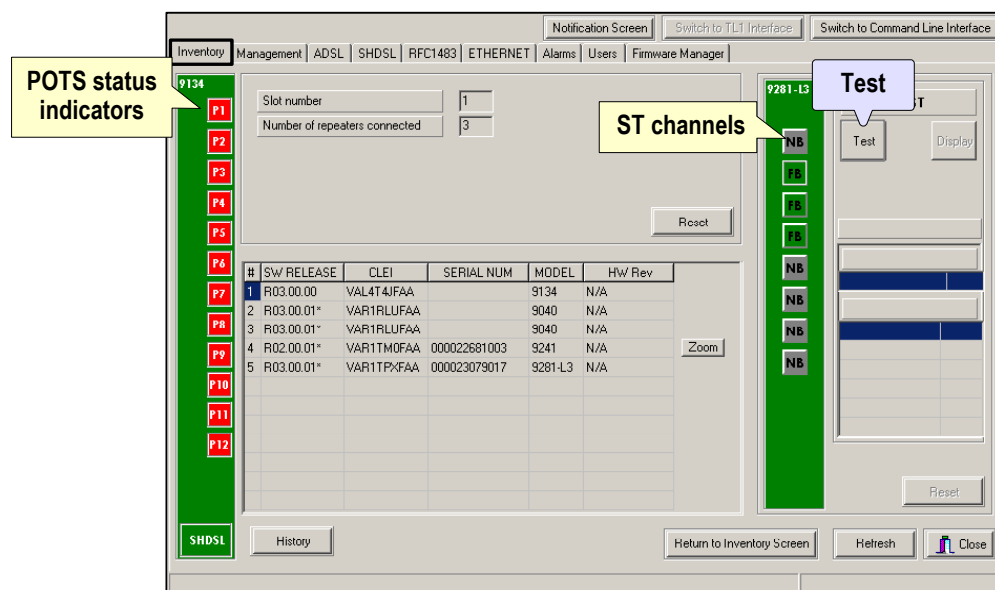

Figure 36 – Channel test (terminating ST)
*The **Inventory status** screen (Figure 36) appears.*
test a channel on the terminating ST	<ol style="list-style-type: none"> a. From the card's Inventory status screen, click on an ST channel to be tested. Note: Test only those channels with talk battery applied to the COT (they appear as FB or RB). You cannot test channels without talk battery (NB). The Test button becomes active (Figure 36). b. Go to Step 4.